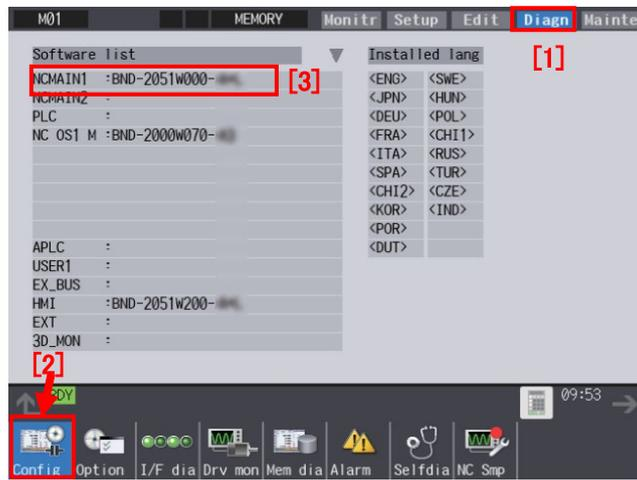

Figure 1. Software Configuration screen (800V/M80V Series)
- 1) Open the “Diagnostics” screen on the display (see [1] in Figures 1 to 4) and select the “Config” menu (see [2] in Figures 1 to 4) to display the Software Configuration screen.
- 2) Check the “System Number” displayed in “NCMAIN1” on the Software Configuration screen (see [3] in Figures 1 to 4).